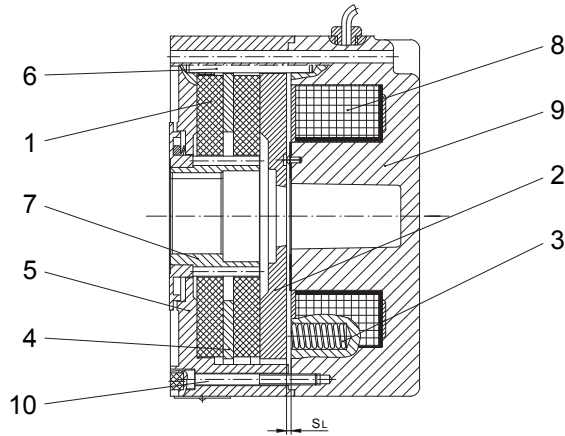

Figure 1: Z.. series double-disc spring-loaded brakes
- 3 Operating principle** The operating principle is explained using the twin-disc spring-loaded brake shown in Figure 1 (series Z).
Starting from the variant shown in Figure 1, all brakes can be additionally equipped with the following options:
If they are to be retrofitted, first heat the carrier (7 in Figure 1) to approximately 80° C and push it onto the extended shaft extension of the rotor.